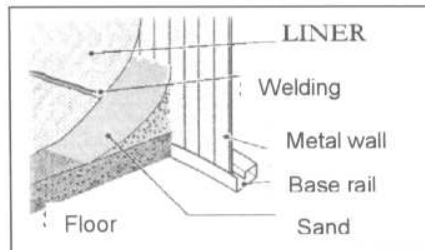

Fig. 7
- i) Cover the inside border of the circle using clean sand that is free of any stones or foreign objects. Press the sand into a vertical triangular shaped layer that covers the sections and the inside part of the metal wall. The height of this triangular layer must not exceed 7 cm. (fig. 7). In this way, you will prevent the liner from sliding under the metal wall and being damaged due to the pressure and the weight of the water.